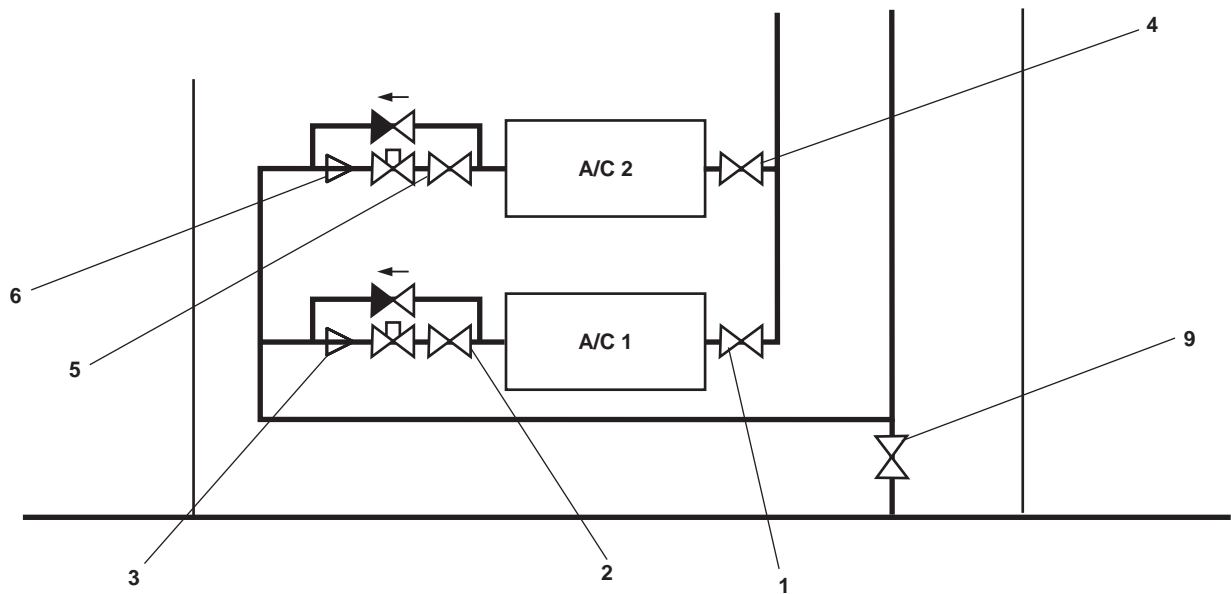

Figure 3. Condenser Cooling Water Valve Locations
- (1) GS-33, A/C COND No. 1 SPLY (figure 3, item 1)
- (2) GS-37, WTR RGLTR COV (figure 3, item 2)
- (3) GS-70, WTR RGLTR COV (figure 3, item 3)
- (1) GS-34, A/C COND No. 2 SPLY (figure 3, item 4)
- (2) GS-36, WTR RGLTR COV (figure 3, item 5)
- (3) GS-69, WTR RGLTR COV (figure 3, item 6)